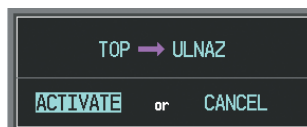

Figure 5-110 Confirm Active Leg
- c) Press the **ACT LEG** Softkey. The confirmation window is now displayed as in Figure 5-110. Note the TOP to ULNAZ leg is actually part of V4.